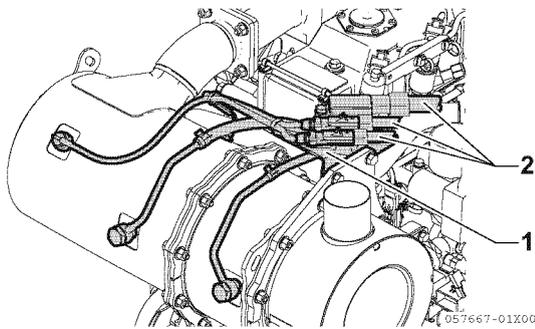

Figure 13-19
- Remove the exhaust differential pressure sensor connected to the sensor bracket (1 Figure 13-19) and the wiring from the engine or driven machine that is connected to the exhaust temperature sensor couplers (2 pcs.) (2 Figure 13-19).